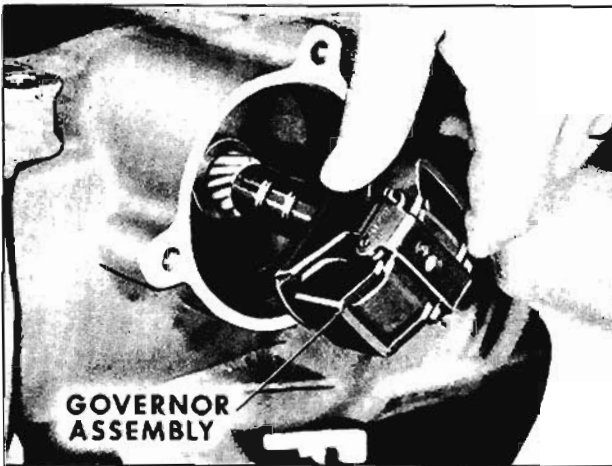

Fig. 6-283 Removing Governor
2. With a twisting motion, slide governor assembly out of its bore in case. (Fig. 6-283)